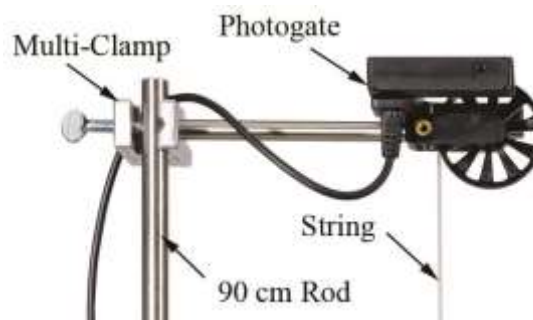

Figure 3: Rods and Clamp
3. Use the multi-clamp (see Figure 3) to fasten the photogate to the vertical rod.
6. Cut a 1.2 m piece of string and tie loops on each end to hold a mass hanger. Pass the string up and over the pulley as shown in Figure 3.